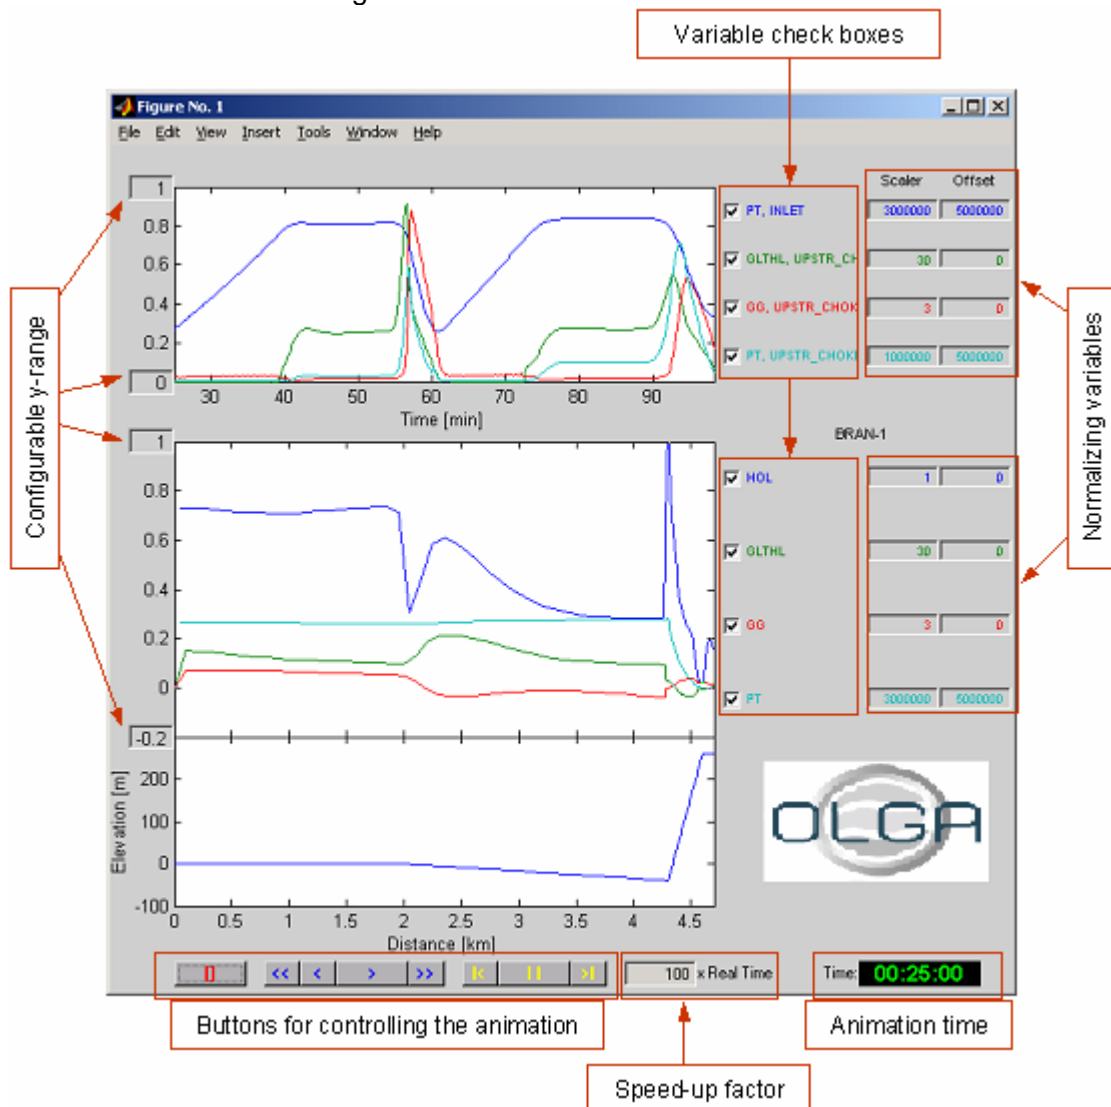

Figure 6.1 Animation GUI
- A picture of the animation GUI is shown in Figure 6.1.